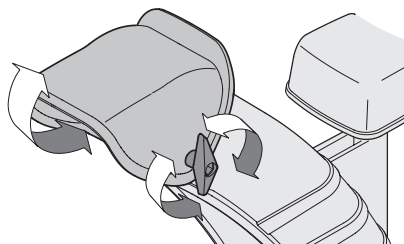

Figure 2-52
1. Loosen wing knob found on left side of chute assembly. See Figure 2-52.